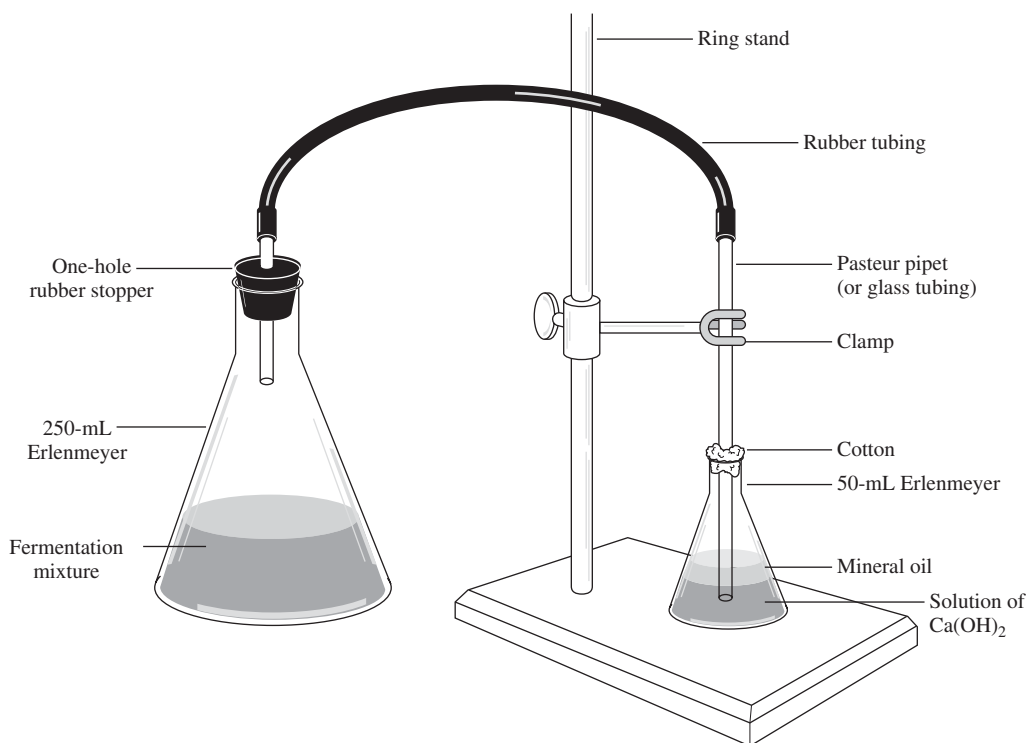

Figure 33.1
- Figure 33.1 shows the setup for the fermentation experiment. The Erlenmeyer flask is fitted with a one-hole rubber stopper containing a short piece of glass tubing. Latex tubing (approx. 12 in.) is attached to the glass tubing; at the other end is a short length of glass tubing or a Pasteur pipet. The open end is placed into a 50-mL Erlenmeyer flask (or a test tube [150 × 15 mm]) containing 30 mL of calcium hydroxide ($\text{Ca}(\text{OH})_2$) solution; be sure the glass opening is at least 1 cm below the surface of the liquid. Carefully cover the top of the calcium hydroxide solution with 1 cm of mineral (paraffin) oil. Hold the glass tubing vertically in place with a clamp attached to a ring stand; plug the opening of the Erlenmeyer loosely with a small piece of glass wool or cotton. This setup excludes air (and oxygen) from the system (which allows anaerobic oxidation) and prevents further oxidation (by aerobic oxidation) of the ethanol (to acetic acid).
4. In the setup you used (refer to Figure 33.1), the system is essentially closed in order to prevent air from entering. If you forgot to use the trap, would you still get ethanol as the end product? Explain your answer.